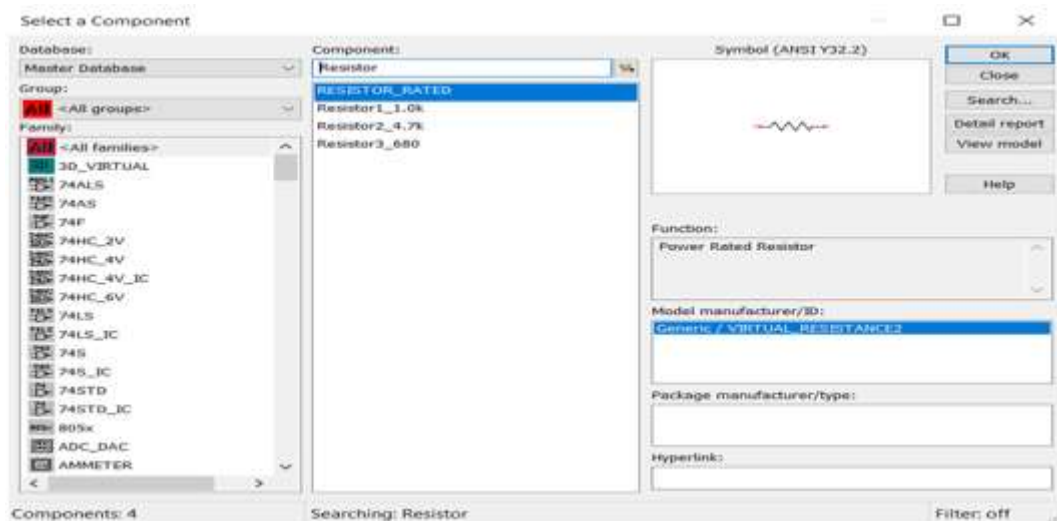

Figure 4: Selection of Resistor
- Select the Basic Group > Resistor Family and edit the resistor value by placing the component in the workspace. (Figure 4)